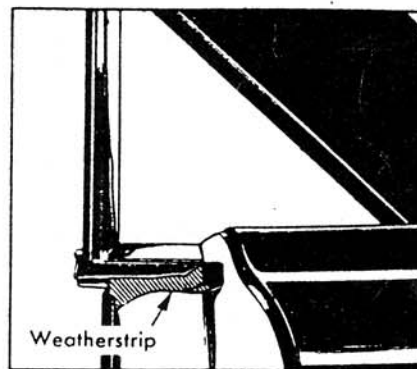

Fig. 3
**T**HERE may be a possibility of cold air leaking into the rear seat compartment of a 1959 Eldorado Brougham. Should a 1959 Eldorado Brougham owner complain of air leakage at either of the rear seat sides, a piece of weather-strip material or sponge rubber can be used to reduce this effect. The weatherstrip material should be approximately  $\frac{3}{16}$ " thick and  $6\frac{1}{8}$ " long, and can be cemented into position and secured with a small screw at each end. For correct positioning, see Fig. 3.
Since Fig. 3 only indicates the general shape, vertical dimensions should be customized to each particular car. The following three points should be considered when preparing the weatherstripping: (1) Make sure the weatherstrip extends across the